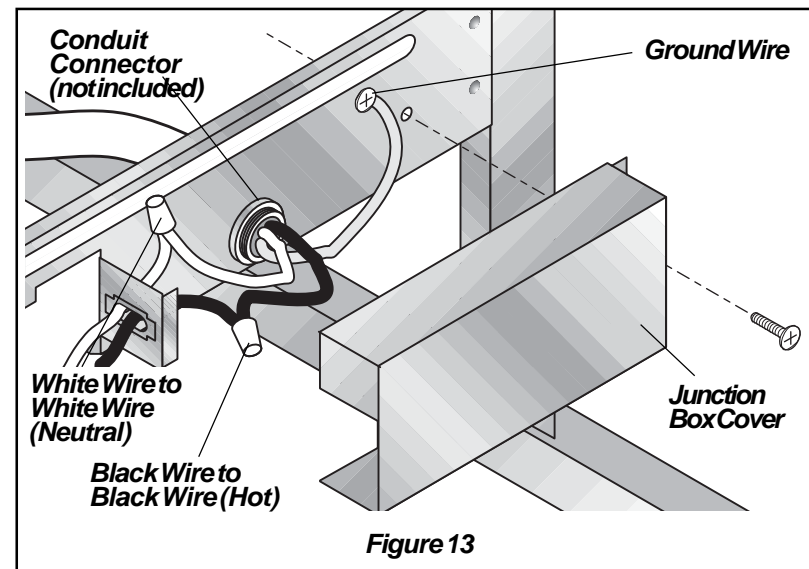

Figure 13
- Inside junction box, attach ground wire under head of grounding screw and tighten. See **Figure 13**.
- Replace junction box cover. See **Figure 13**.